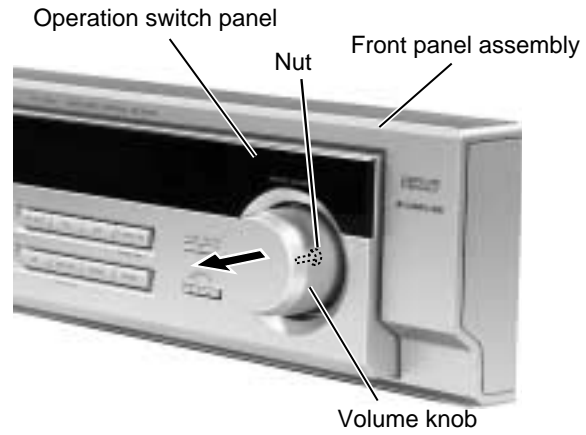

Fig.17
■ Removing the system control board / power switch board (See Fig.17 to 19)